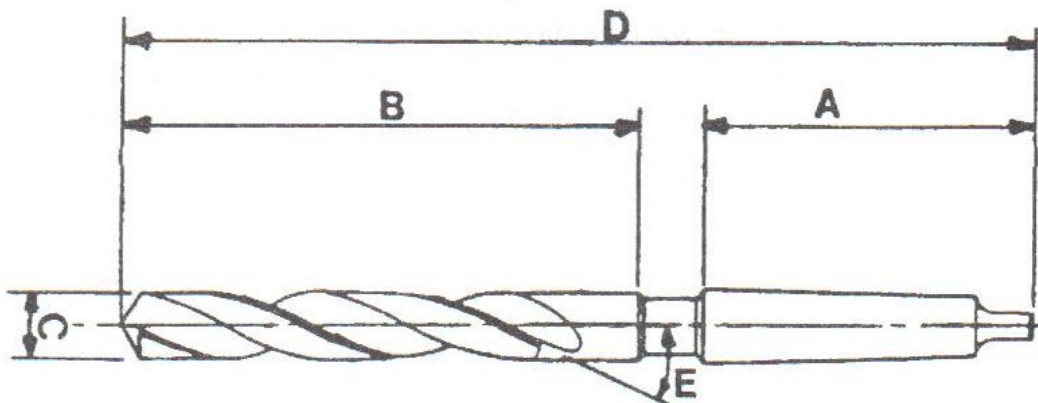

FIGURE 1
- 2.2 The diagram below shows a sketch of a drill. Write down the letters as indicated in FIGURE 1 in the ANSWER BOOK and correctly label the part next to each letter. (5)